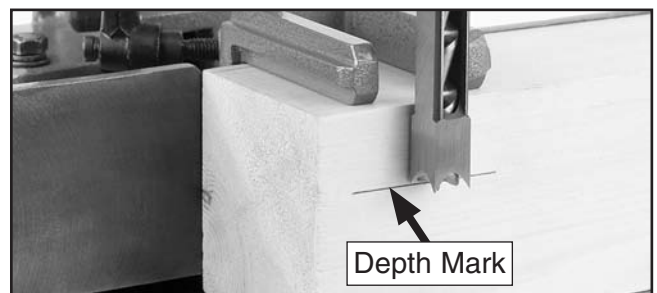

Figure 23. Depth marked on workpiece.
- Another method of setting the depth stop is to mark the depth of the mortise cut on the side or front of the workpiece with a pencil, lower the bottom of the chisel to the line, as shown in **Figure 23**, then lock the depth stop.